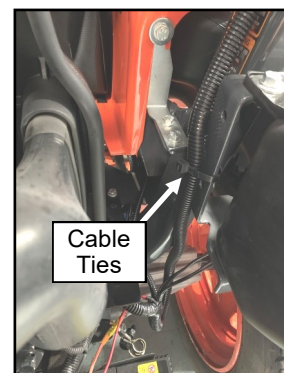

Fig. 7.6 (Secure Wire Harness)
7.6 See fig. 7.6. Using two cable ties, secure the wire harness to the compressor lines just below the regulator connectors and another where compressor lines bend to go to the compressor. Ensure that the wire harness will not contact any sharp edges. Make sure hood closes without hitting the wire harness.